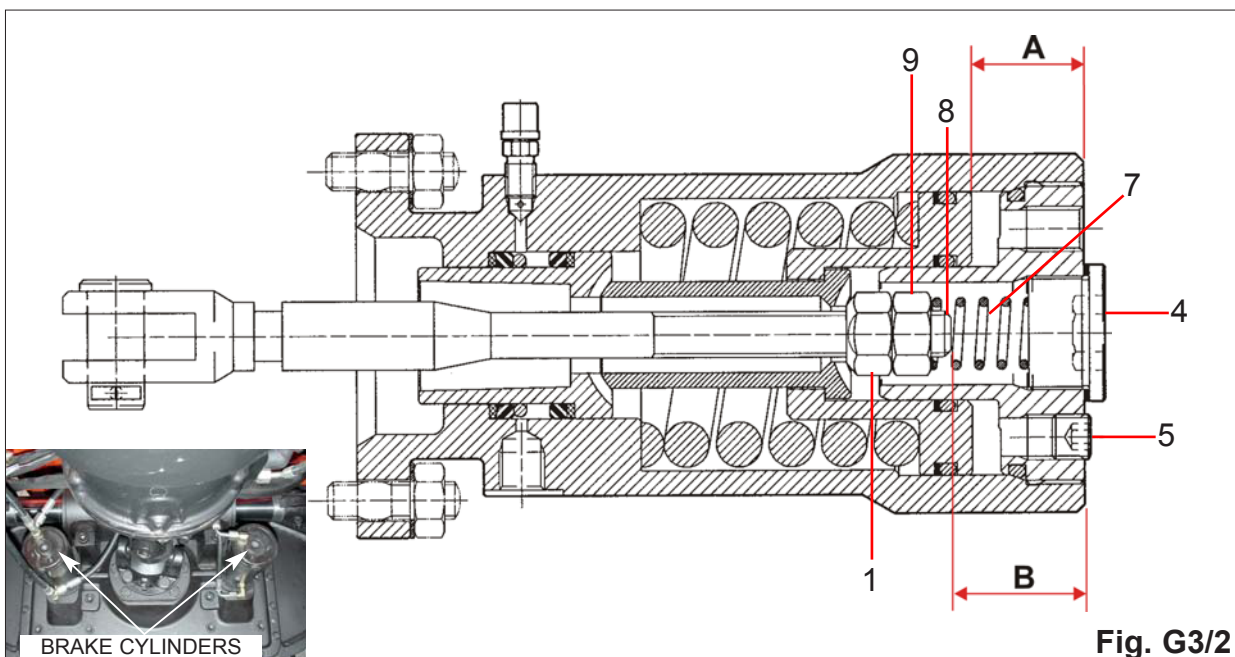

Fig. G3/2
- a) Disconnect and close the hydraulic "X" (Fig.G3/1) of the cylinder of the gear selector.
- b) Put the rod "Y" (Fig.G3/1) in neutral position (this is on half stroke between two "détente")
- c) Deactivate the negative brake (fig.G3/2):
Brake cylinder regulation (fig.G3/2)